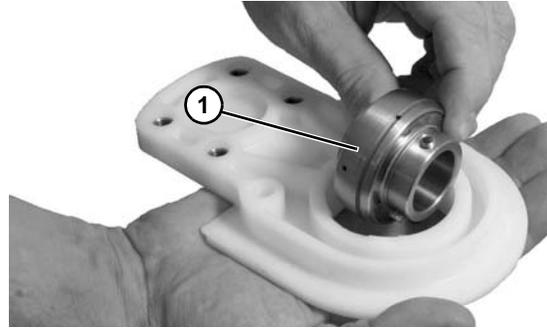

Figure 63
- Twist the bearing out (Figure 63, item 1).